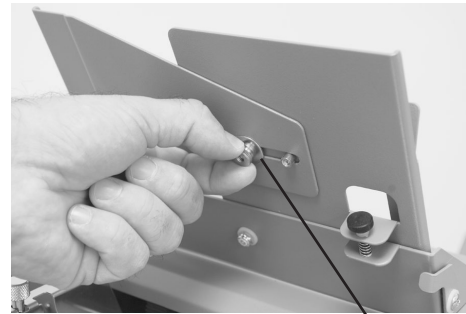

Fig. 11a
1. Adjust the side guides on the multi-sheet feeder for the proper paper size. Loosen the brass thumb screw, adjust the guides to fit the paper width and re-tighten the thumbscrew (Fig 11a).